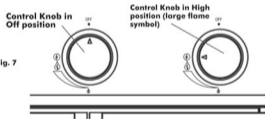

Fig. 7
2. **IMPORTANT:** Make sure Control Knobs are turned "Off." (Fig. 7)
4. Push far left Main Burner Control Knob in on Control Panel and turn counterclockwise to the High position. (Figs. 7 and 9)
2. **IMPORTANT:** Make sure Control Knobs are turned "Off." (Fig. 7, P.20)
2. **IMPORTANT:** Make sure the Side Burner Control Knob is turned "Off" first. (Fig. 7, P.20)
4. Push Side Burner Control Knob in and turn counterclockwise to the High position. (Fig. 7, P.20)